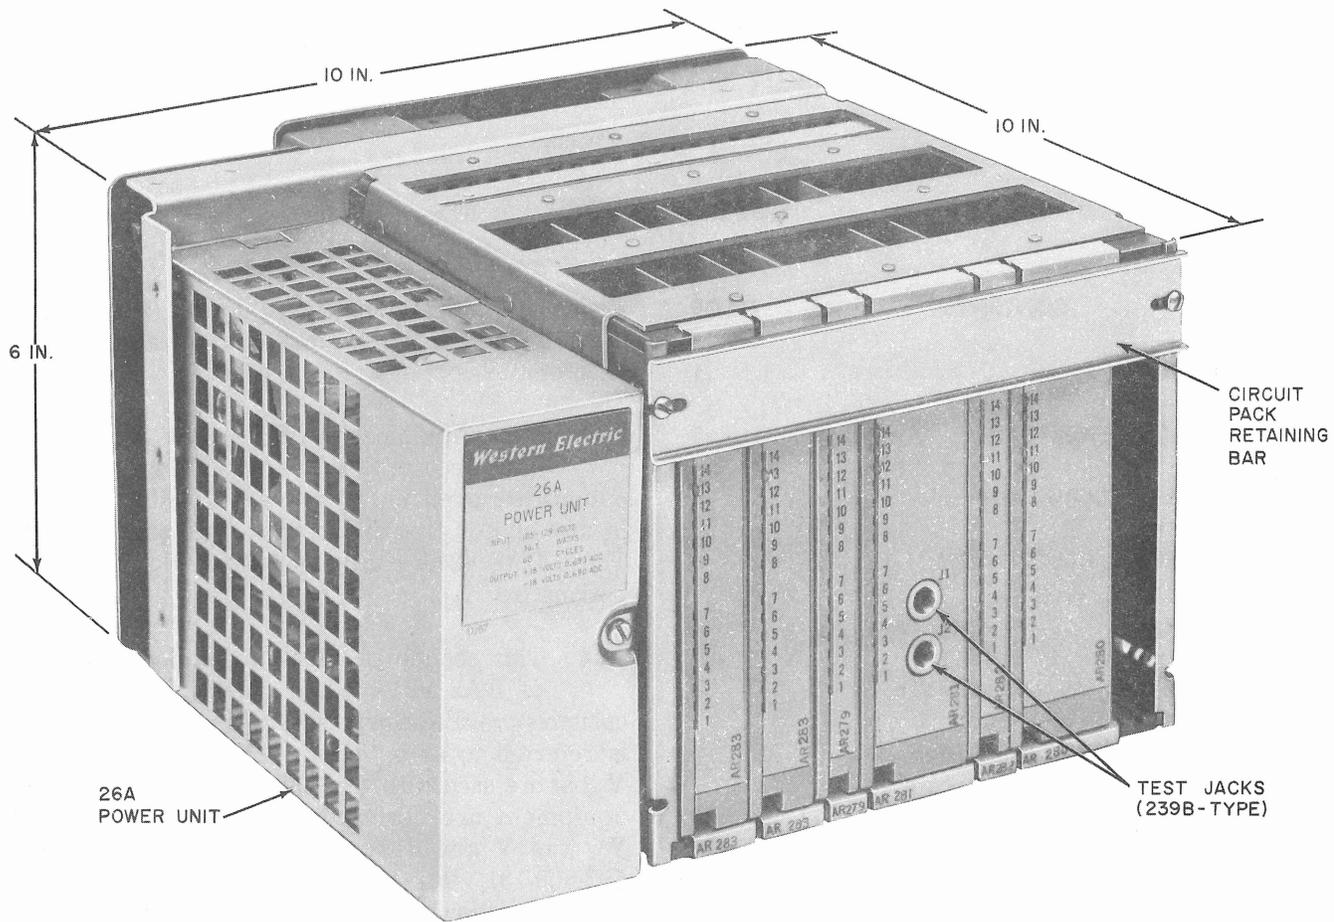

Fig. 1—Data Auxiliary Set 824A2, Front View
**2.03** Data Auxiliary Set 824A2 comes equipped with a 26A power unit. DAS 824A1 is not equipped with a power unit and must obtain its power from an external source. Refer to Fig. 1, 2, 3, and 4.